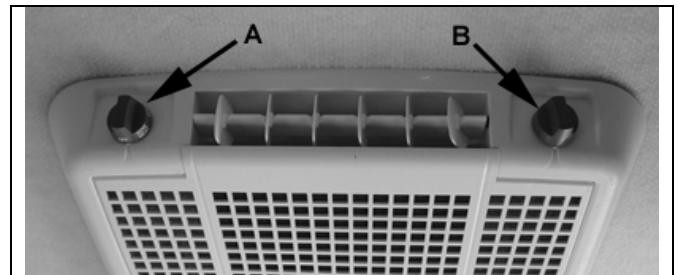

Figure 8-3 – Roof Air Conditioner Controls
- Move the function knob (A) to the desired heat or cool position. See figure 8-3.
- Select the desired temperature using the temperature control knob (B).